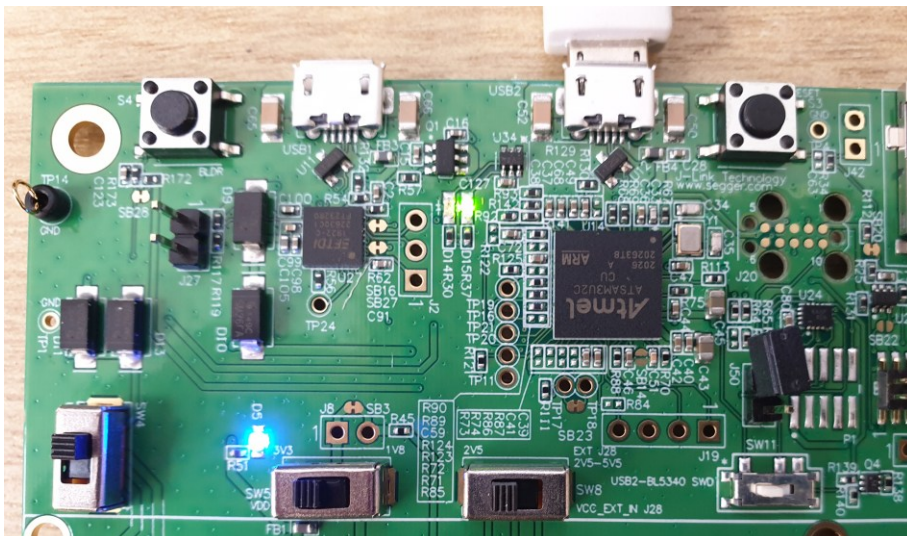

Figure 2: BL5340 development board USB2 to SWD interface for loading the application
1. Connect the DVK-BL5340 (connector USB2) to your PC via the included USB-A to USB micro cable, to load the low power application using the onboard USB2 to SWD interface circuitry (SW11 must be in left position), as shown figure **Figure 2**.